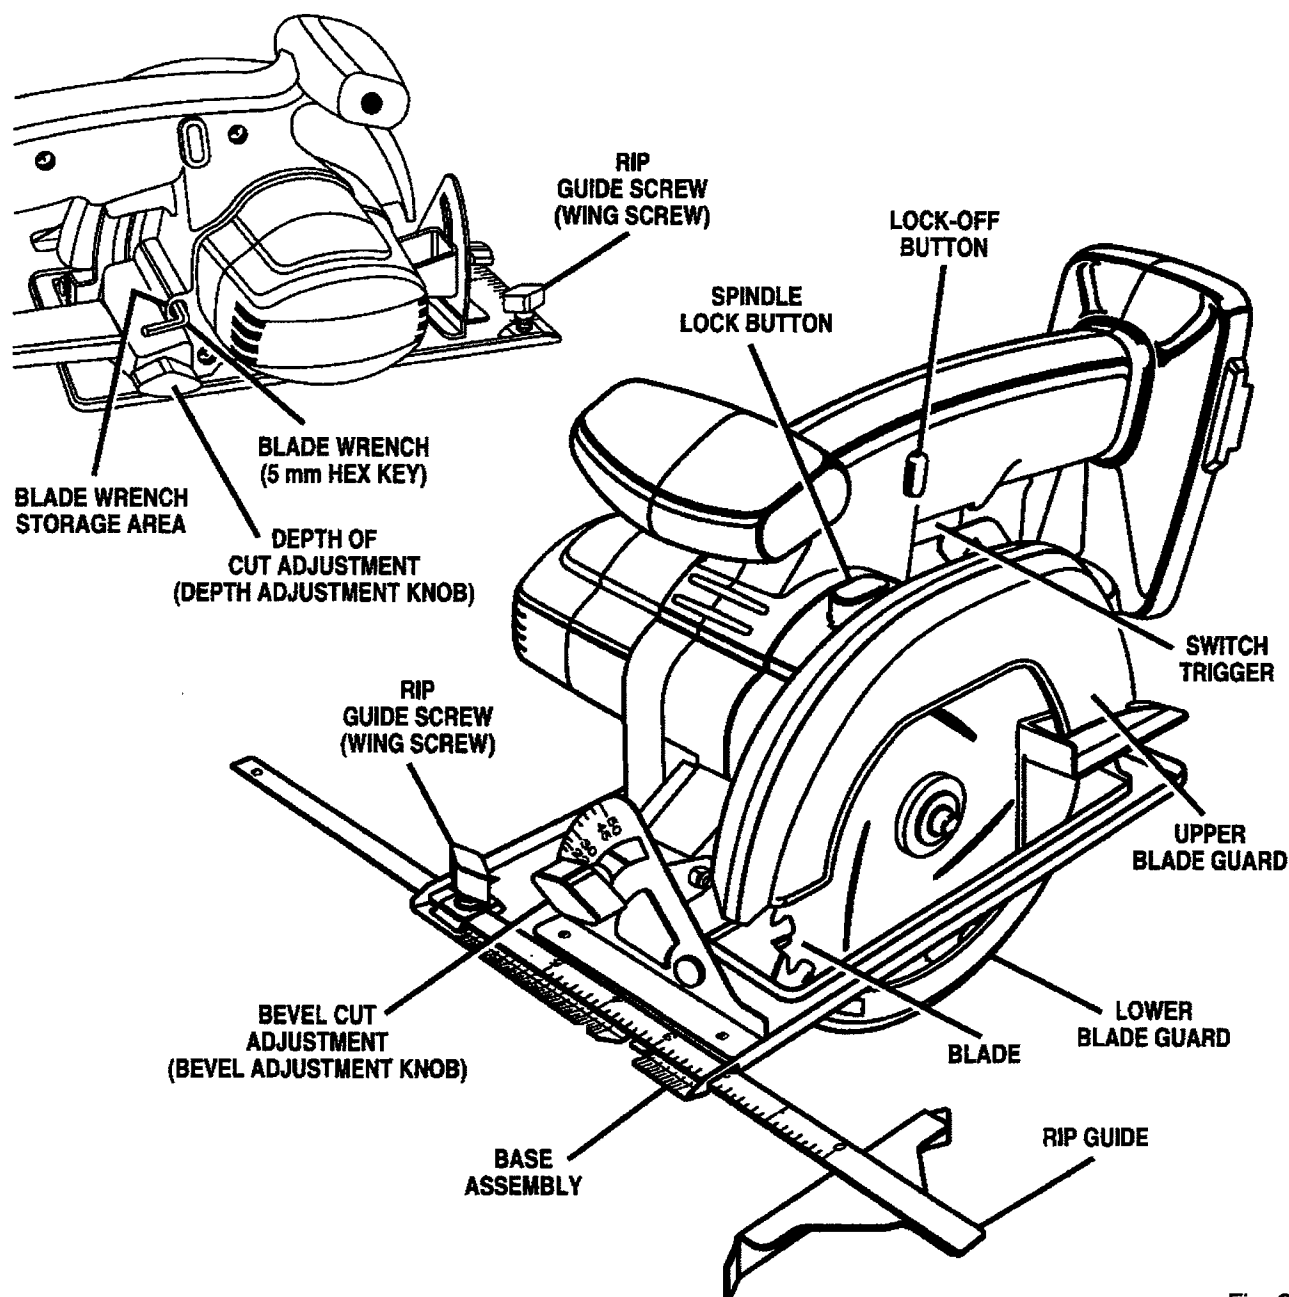

Fig. 2
See Figure 2.
- Remove blade wrench (5 mm hex key) from storage area. See Figure 2.
- Remove blade wrench from storage area. See Figure 2.